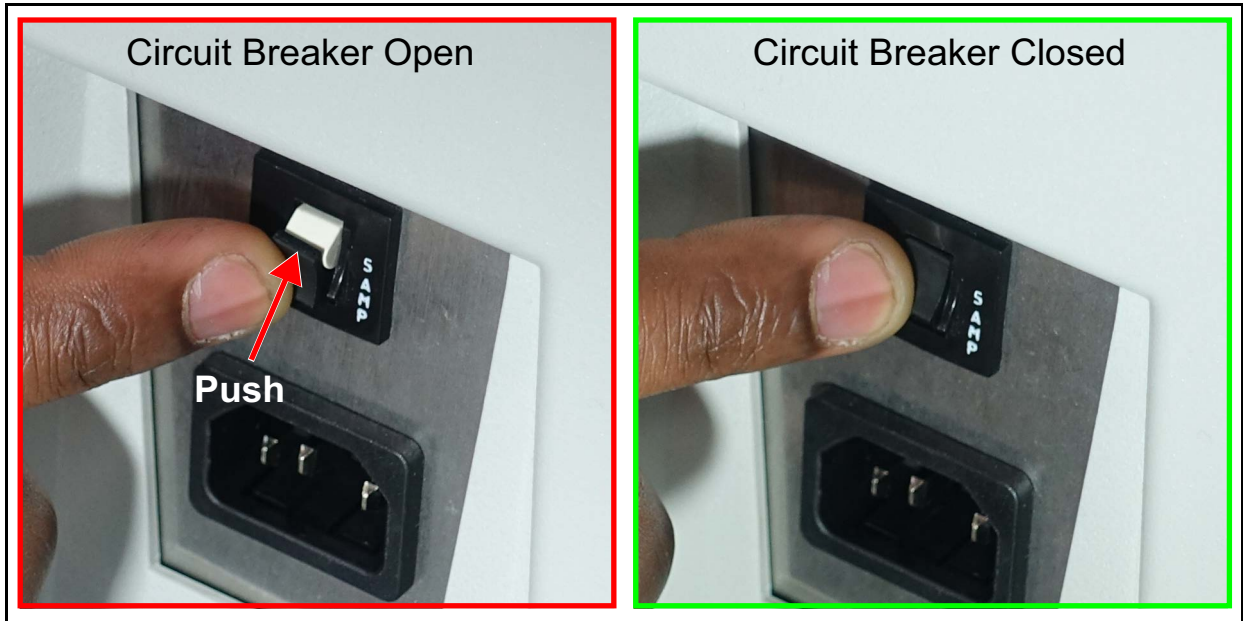

Figure 4-10: Closing the circuit breaker
2. Unplug the power cord and push the circuit breaker toward the Series 410 to close it (Figure 4-10).